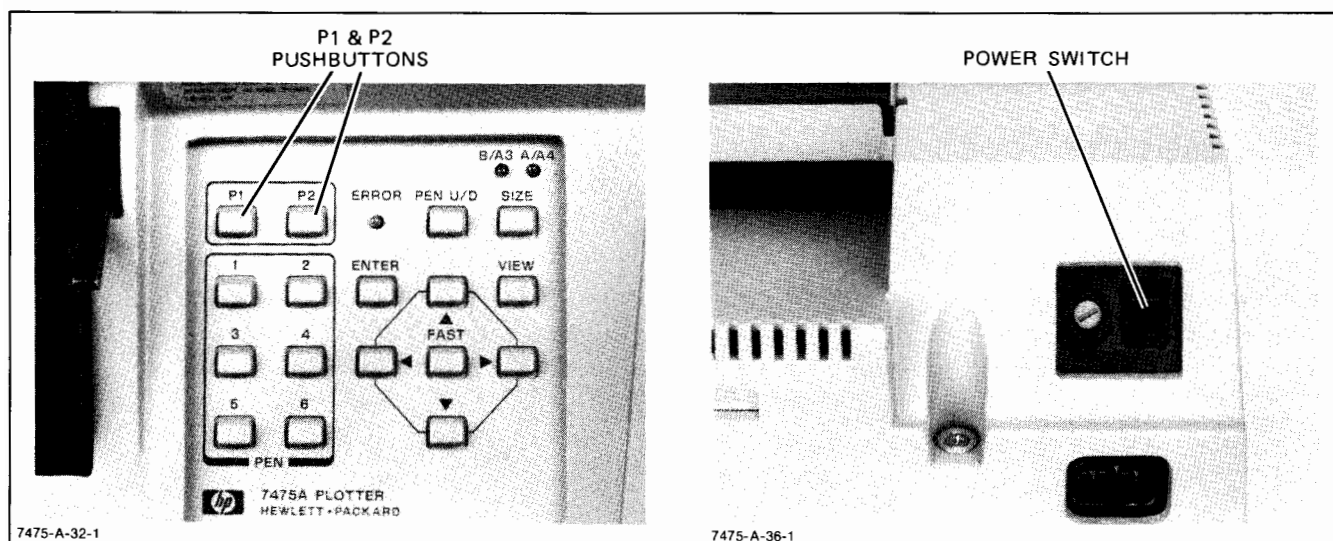

Figure 2-1. P1 and P2 Button and Power Switch Locations
- c. While holding down buttons P1 and P2, apply power to the plotter. See Figure 2-1. Release buttons after initialization starts.